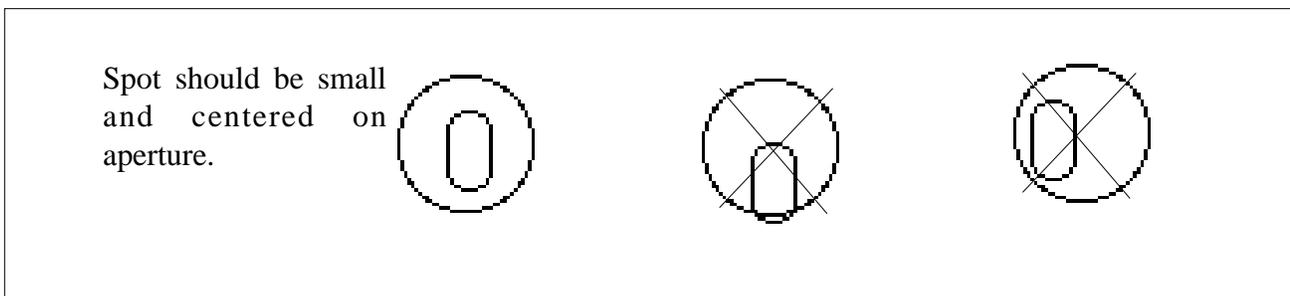

Figure 9. Spot Alignment
5. Set the power switch to ON. Shield your eyes from the lamp beam and observe the projection of the beam onto the aperture. Refer to Figure 9, Spot Alignment. The spot should be small and centered on the aperture. The spot should be sufficiently large to just encircle the aperture. If the spot is not centered, repeat step 4.